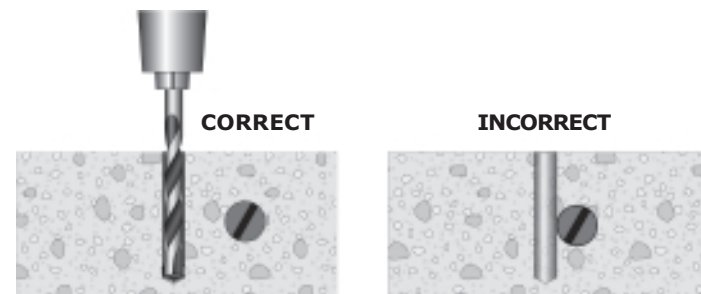

Figure 133: Drilling into concrete with rebar.
**If you strike steel reinforcement when drilling, you must have the damage inspected. As directed, fill the hole with approved grout and select a new location according to minimum spacing requirements. Drill a new hole (see Figure 133, page 99).**